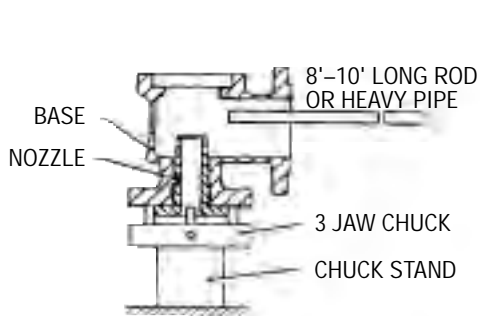
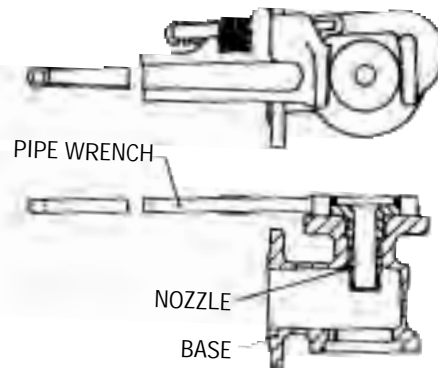

FIGURE 12
FIGURE 13
10. Remove the Nozzle from the Valve Base as suggested in Figure 12, or by using a Hex wrench or a pipe wrench on the flange as indicated in Figure 13.